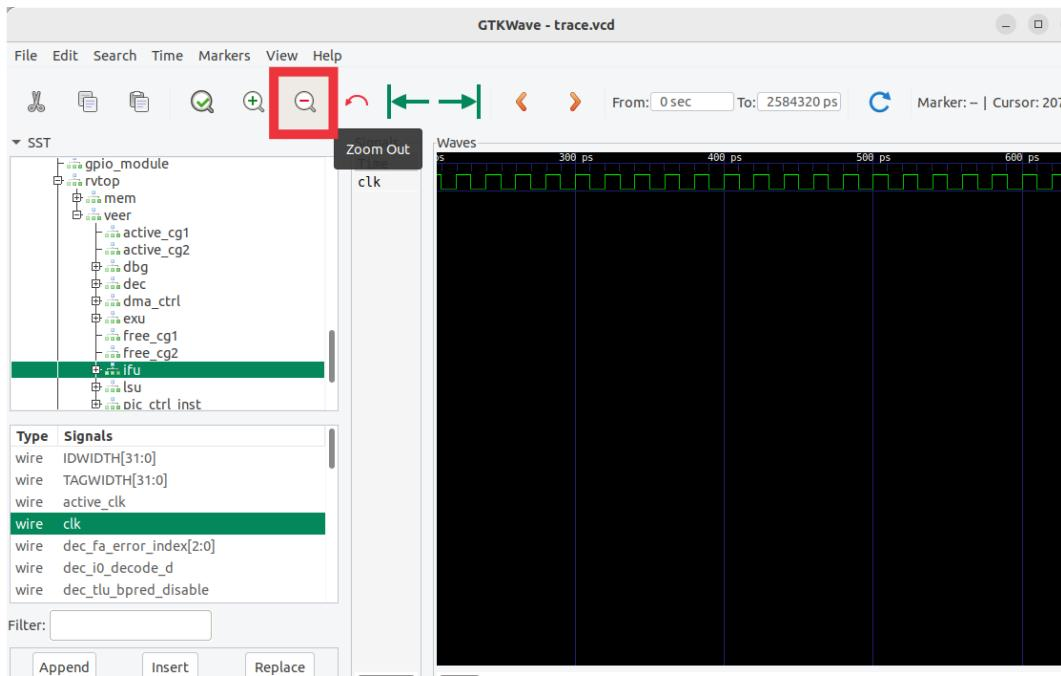

Figure 69. Zoom out
2. Zoom out several times so that you can view the clock signal change (Figure 69).